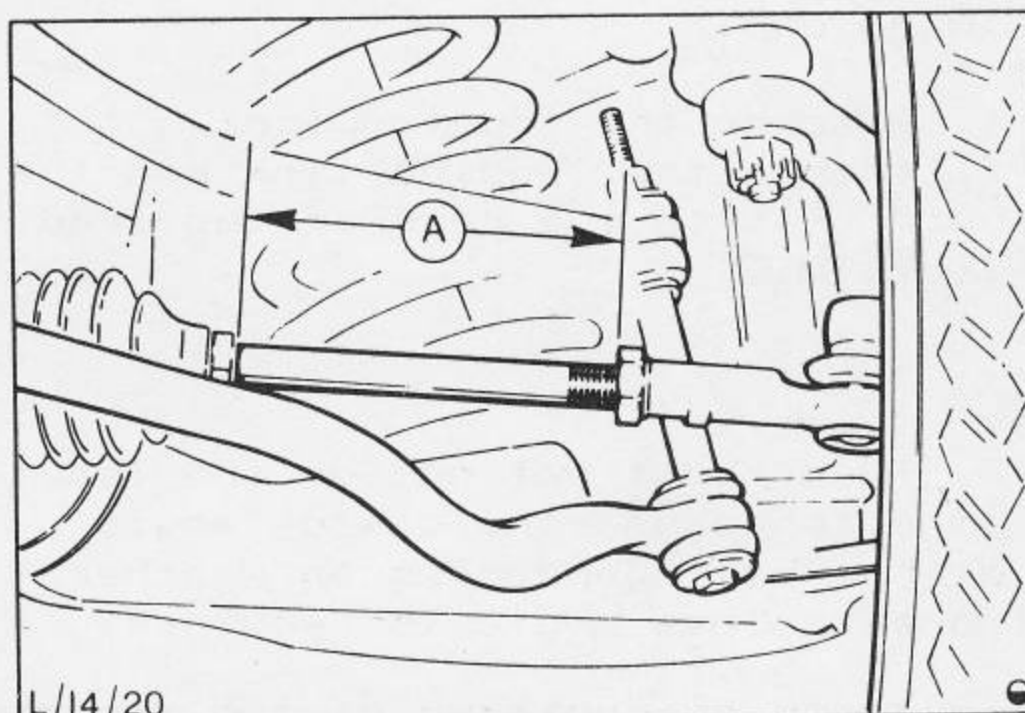

Fig.8 . Track rod adjustment.
2. To preserve steering wheel alignment adjust each track rod end by equal amounts. Dimensions "A" on R.H. & L.H. track rods should be approximately equal to ensure equality of lock angles. Fig.8